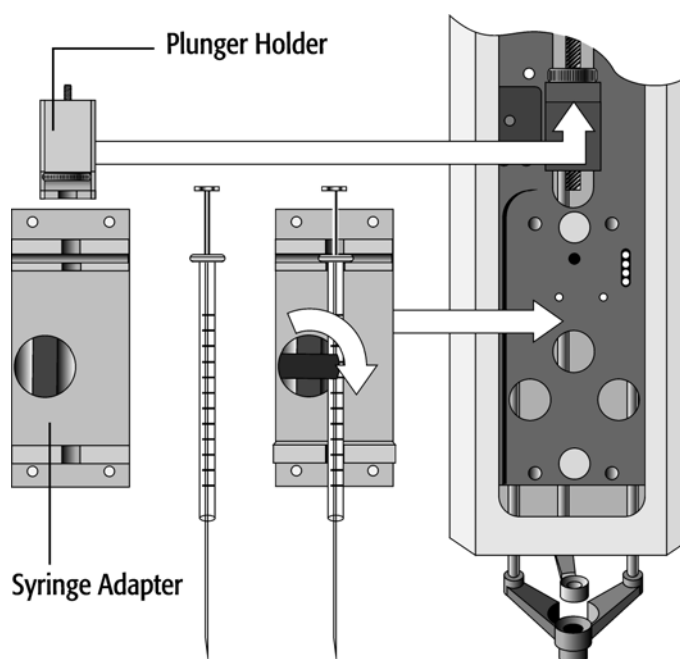

Figure 26. Syringe and Syringe Adapter
- 4 If necessary, loosen the plunger retaining screw in the plunger holder (see Figure 26).